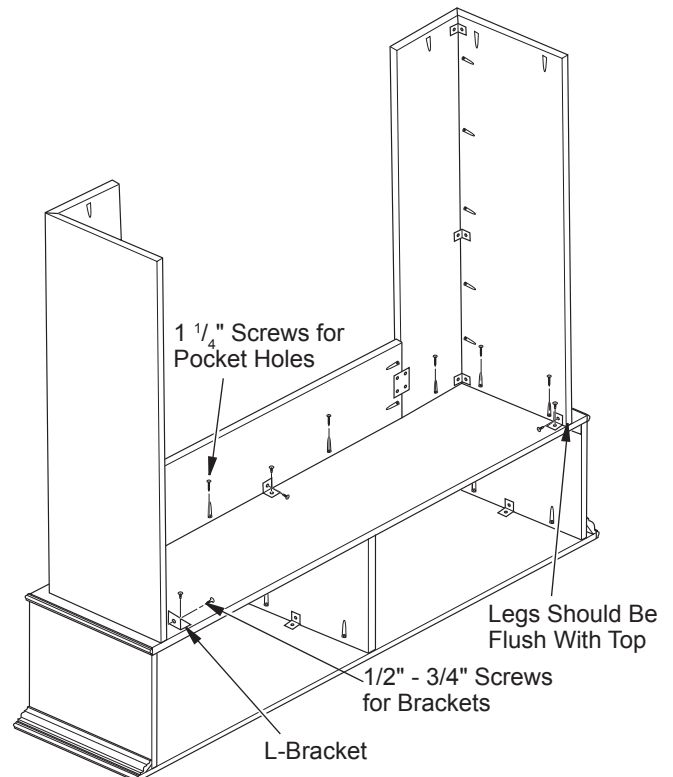

Figure 10 - Attaching Top to Leg and Header Assembly
- Turn top assembly and header/leg assembly upside down if not already in this position. Place header/leg assembly inside top (see Figure 10). The rear of legs should be flush with back of top and centered left to right.
- Using pocket holes and 1 1/4" screws provided, attach header/leg assembly to mantel top. Attach supplemental brackets using 1/2" - 3/4" screws provided in bracket hardware pack. Use 3 brackets to attach mantel top assembly - one at the back of each leg assembly and one at the center of the header (see Figure 10).